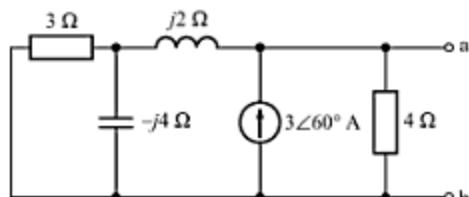

Fig. C-65
- C-96. Find Z_{Th} , V_{Th} , and I_N for the Thevenin's and Norton's equivalents of the circuit shown in Fig. C-65.